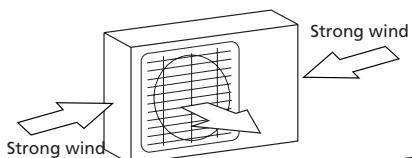

Fig. 4.1
- ☒ If the location is exposed to strong winds (for example: near a seaside), the unit must be placed against the wall to shelter it from the wind. If necessary, use an awning. (See Fig. 4.1 & 4.2)